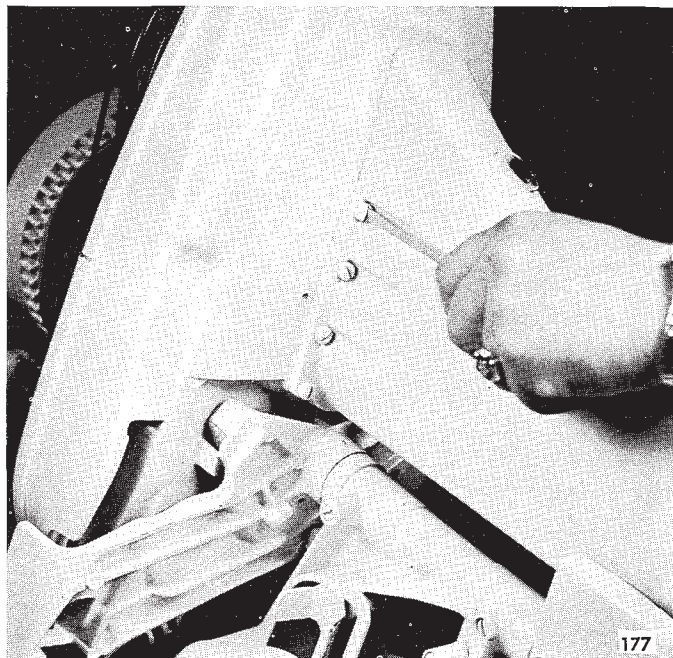

FIGURE 20 — REMOVING POWER HEAD ATTACHING SCREWS
3. Disconnect throttle control by removing the magneto control lever assembly from the exhaust port plate. The lever is retained by two (2) screws in the exhaust post cover. By disconnecting the linkage at these points, the throttle control settings will remain the same, and will therefore eliminate re-setting when re-installing power head.
6. Remove the eight (8) power head attaching screws, as shown in Figure 20, and lift power head up and off.